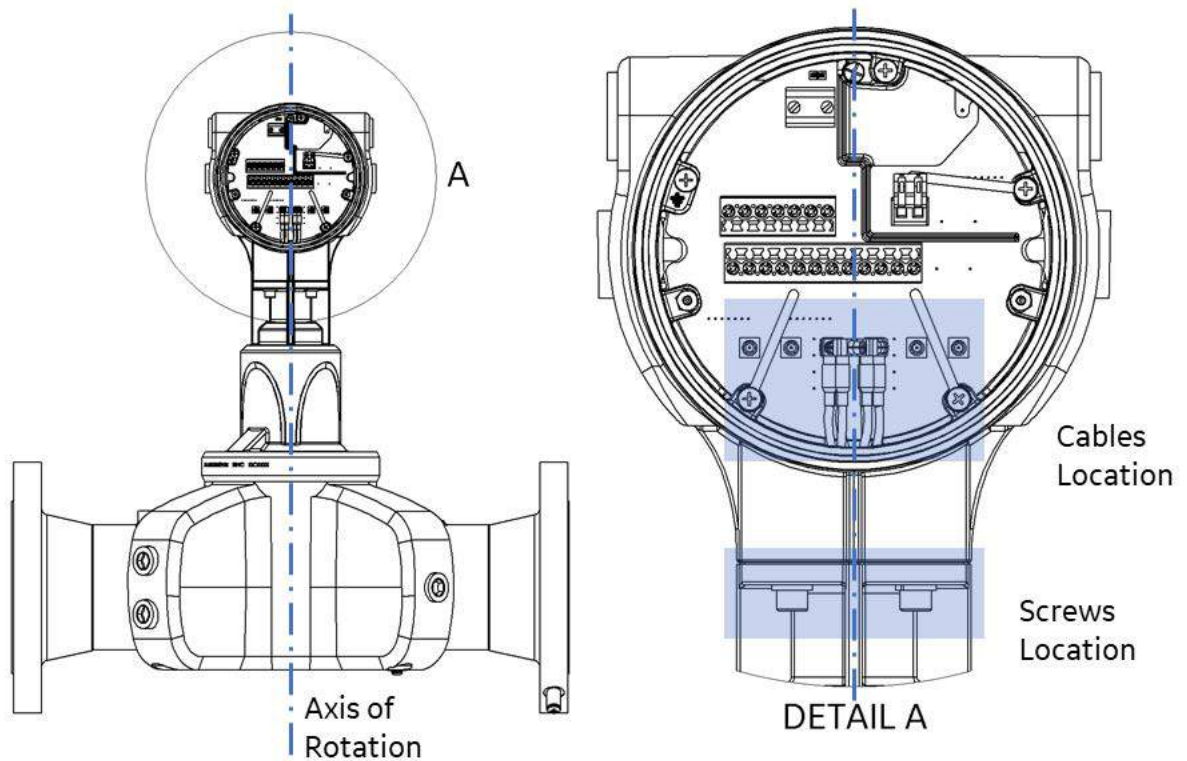

Figure 47: Disassembly Required for XMT1000 Transmitter Rotation (Back View)
4. The entire XMT1000 Transmitter should now be free to rotate about the axis of rotation shown in Figure 47. Rotate the transmitter enclosure to your desired position, ensuring that screw hole alignment is maintained.